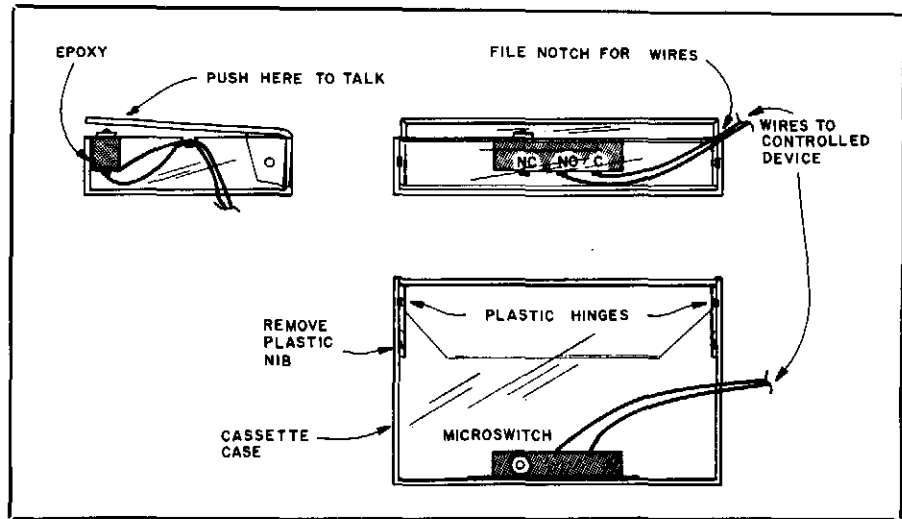

Fig 5—Harold Keenan's foot switch is based on a cassette-tape case and a microswitch.
□ An inexpensive PTT switch can be built quickly from a plastic cassette case and a microswitch, as shown in Fig 5. Wire the switch first. Next, file a notch in the side of the case for wire egress, and file off the nib inside the case that resists the cover's movement. Fasten the wired microswitch to the inside front of the case with epoxy